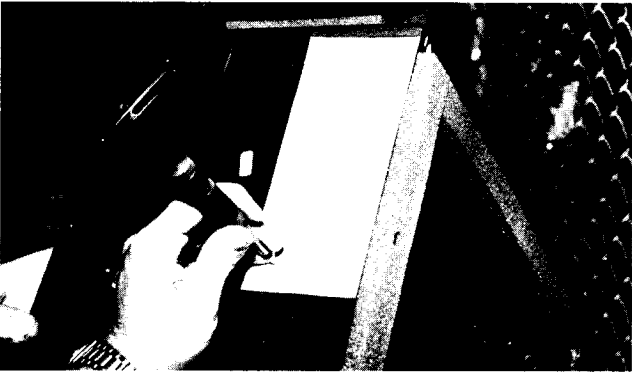

FIGURE 9
9. Plate template "B" on the evaporator housing right end panel (opposite the blower motor) as indicated on the template and shown in Figure 9. Punch and drill a 1/4" hole where indicated.